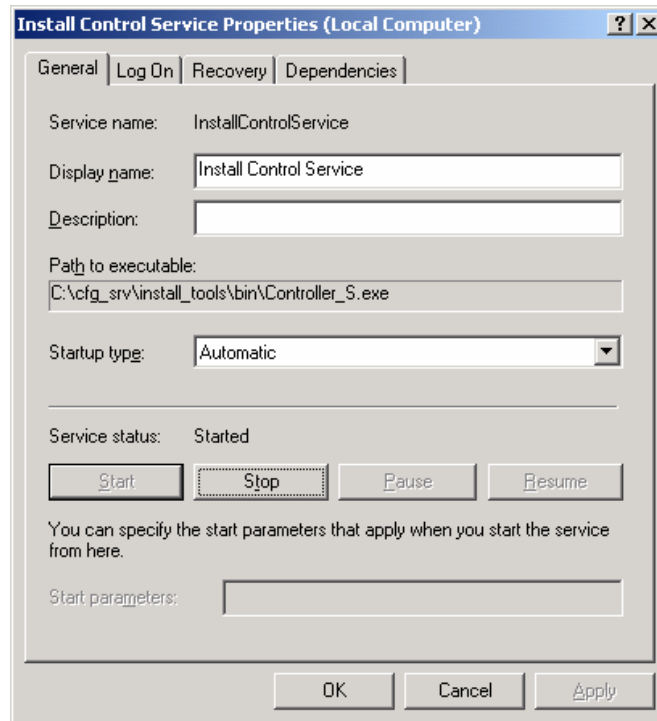

Figure 1-244. Stop Install Control Service
2. Double click on the **Install Control Service** icon shown in the Services window. The window in Figure 1-244 is displayed.